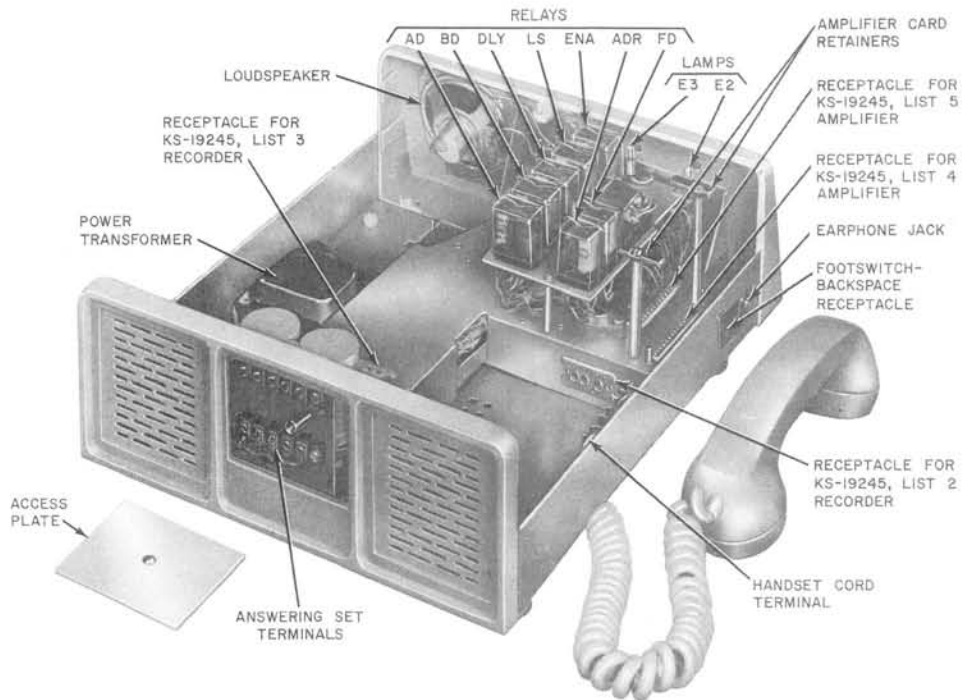

Fig. 4—KS-19245, List 1 Telephone Answering Set, Cover and Plug-In Components Removed
- (1) Remove top cover (2.01).
- (2) Remove ENA relay (3.04).
- (3) Pull out and hold spring clip on side of lamp socket and remove lamp E3 (Fig. 4).
- (4) Replace lamp E3, ENA relay and top cover.⚡
- (3) Plug new recorder into the plug-in receptacle (Fig. 4).
- (4) Replace and tighten the three retaining screws.
- (5) Replace outer cover and tighten four retaining screws.
- (5) Firmly grasp chassis of List 3 recorder and carefully withdraw until plug-in receptacle is disengaged (Fig. 4).
- (7) Plug new recorder into the plug-in receptacle (Fig. 4).
- (8) Replace and tighten the three retaining screws.
- (9) Replace List 6 cartridge (6.02).
- (10) Replace side and top covers.
- (1) Remove top cover of answering set (2.01).
- (2) Loosen retaining screws of the circuit board retainers.
- (3) Remove amplifier from its plug-in receptacle.
- (4) Plug new amplifier into plug-in receptacle (Fig. 4) and tighten screw of circuit board retainers.
- (5) Replace top cover.
**3.04 Replacement of AD, BD, DLY, ENA, ED, LS, or ADR relays (Fig. 4):**
- (4) Plug new relay into the plug-in socket (Fig. 4).
- (5) Engage wire spring retainer.
- (6) Replace top cover.
- (2) Remove KS-19245, List 3 recorder (3.02).
- (3) Unsolder speaker leads.
- (4) Remove four nuts and withdraw speaker (Fig. 4).
- (5) Install new speaker and tighten nuts.
- (6) Solder speaker leads.
- (7) Replace List 3 recorder.
- (8) Replace top cover.